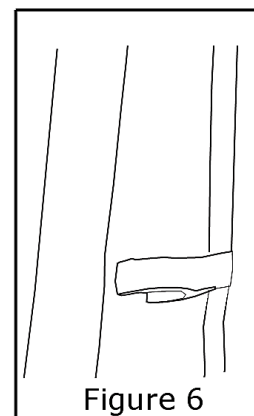

Figure 6
6. Secure the cable to the handle using the three cable clips. (See Figure 6)